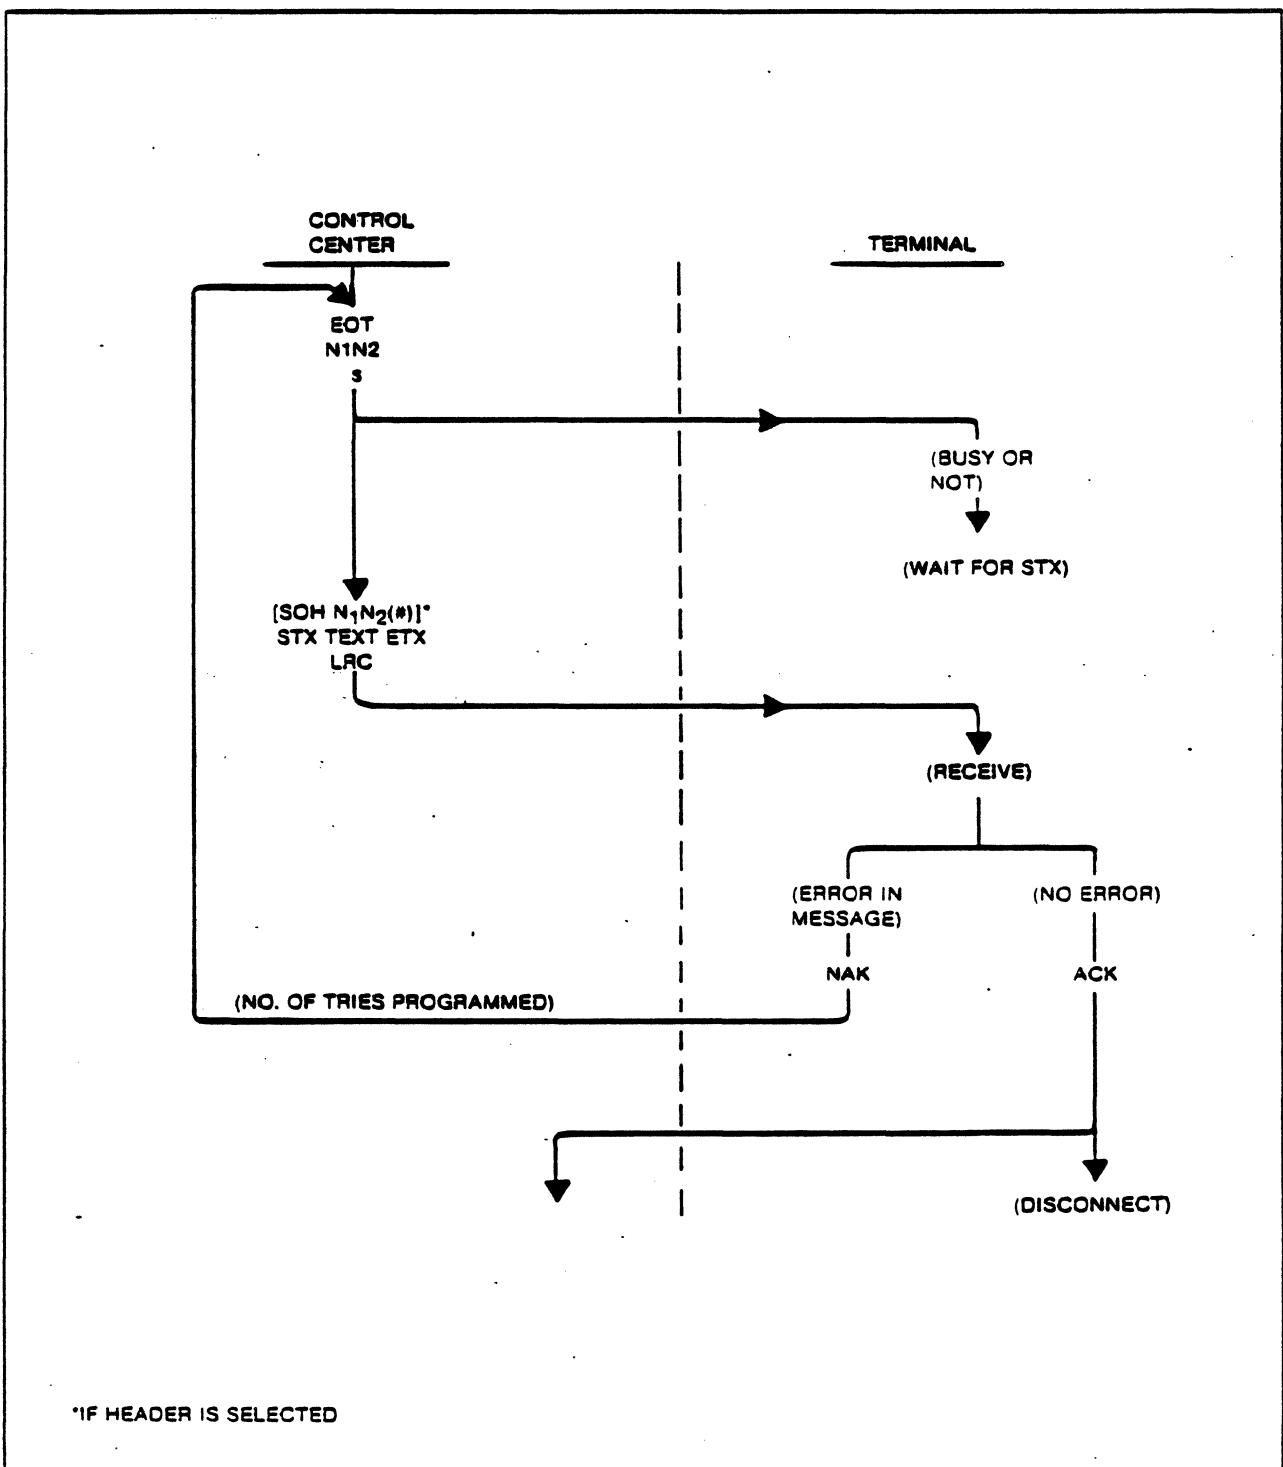

Figure 5-4. FAST SELECT Function Dialogue, Flow Diagram
5.1.8 FAST SELECT Responses (See Figure 5-4)